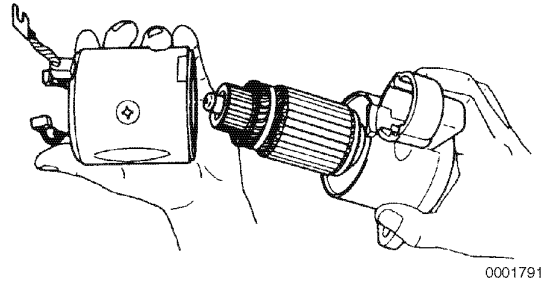

Figure 10-33
6. Install the field assembly over the armature assembly and align to the pinion housing (**Figure 10-33**).